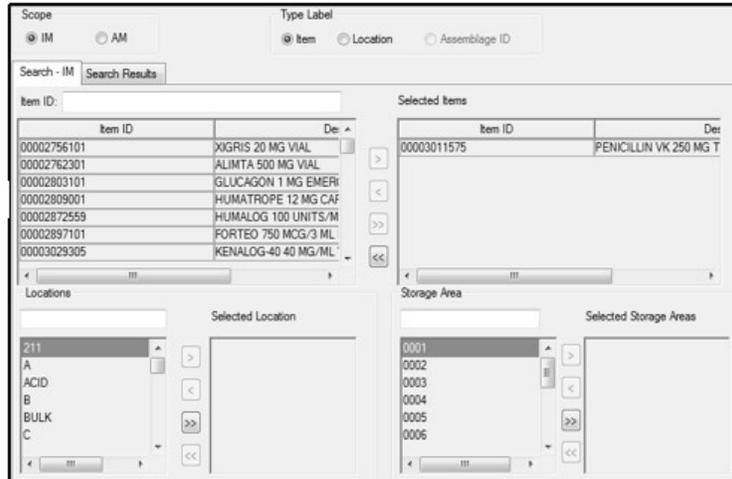

Figure 19. Barcode Printing Window
(1) The "Barcode Printing" module allows users to print barcode labels for new items or replacement labels for existing items. Barcode labels are printed when the label of an existing item is unreadable or if label-related information in the customer catalog has been modified. Print barcodes can also be used in conjunction with "Replenishment Inventory", "Physical Inventory", and the "Issues" processes via Handheld Terminal (HHT). Shelf barcode labels may be printed in the "Barcode Printing" window. The shelf barcode label is principally used for inventorying customer areas, but is also used for item and customer identification.
(2) Before printing large quantities of labels, check the barcode printer to ensure that the machine is on, operating properly, and there are plenty of labels for the print job. If using multiple printers, be sure to check them all. Print barcode labels frequently to ensure they reflect current customer information. Reprint labels as they become worn or if they are removed. DMLSS notifies users when unprinted labels require printing by posting the "IM Unprinted Bar Code Labels with Changes" pending action to the Inbox.
(3) The "Barcode Printing" window (Figure 19) can be accessed in a few different ways. From the Navigate menu, select "Print Barcodes" to access the "Barcode Printing" window or select "Barcode" located on the horizontal toolbar. Another option is to use the keyboard shortcut Ctrl+Shift+F8. This window is also accessible from the Customer's Inbox when unprinted barcode labels with changes are pending.
(4) Once the window is open, select the search criteria by utilizing any of the available filters. Then select "Search" to view a list of all barcodes matching the search criteria. The list shows item description, Item ID, storage area, location, level, and Unit/Sale.